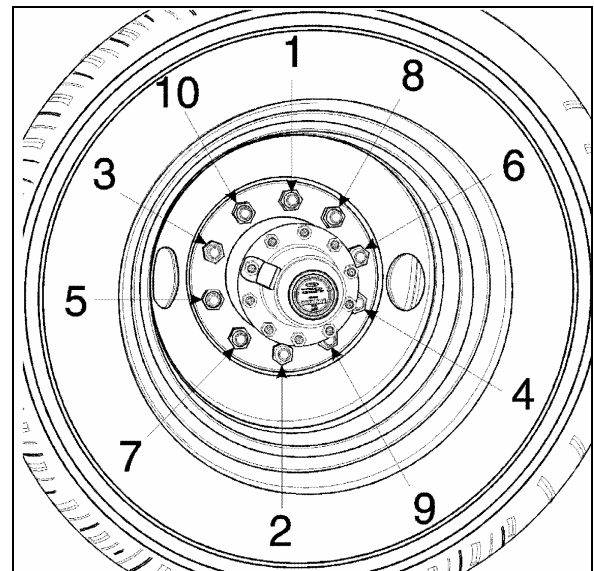
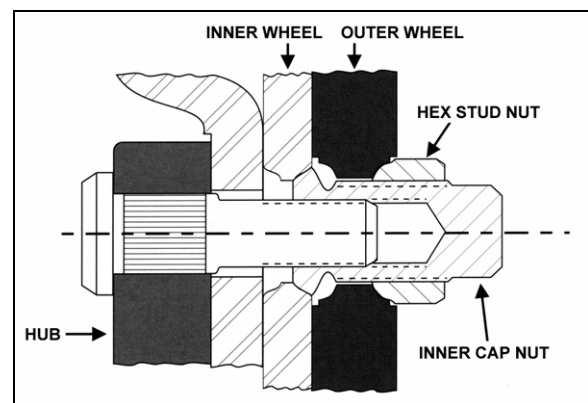

FIGURE 2: TIGHTENING SEQUENCE 13018
FIGURE 4: STUD-MOUNTED WHEELS 13007
It is also important that wheel stud nuts be tightened alternately on opposite sides of the wheel. Refer to Figure 2 for the suggested tightening sequence.
Tighten stud nuts progressively as shown in Figure 2. The final tightening should be done with a torque wrench. Tighten stud nuts to 450 - 500 lbf-ft (610 - 680 Nm) for aluminum as well as steel wheels.
2. Screw in the hex stud nuts (refer to Figure 2 for sequence) so that wheel will position itself concentrically with hub. This is important, otherwise wheel may be eccentric with hub and will not run straight. In this initial step, slightly tighten the nuts to correctly position the wheel;
3. Tighten stud nuts progressively as shown in Figure 2. The final tightening should be done with a torque wrench. Tighten stud nuts to 450 - 500 lbf-ft (610 - 680 Nm) for aluminum as well as steel wheel.
2. Screw in the inner cap nuts (Fig. 4), so that wheel will position itself concentrically with hub. Refer to Figure 2 for sequence;
3. Tighten inner cap nuts progressively according to sequence shown in Figure 2. Final tightening should be done with a torque wrench. Tighten inner cap nuts to 450 - 500 lbf-ft (610 - 680 Nm) for aluminum as well as steel wheel.
With inner wheel installed, tighten the hex stud nuts (Fig. 4) using the single wheel installation procedure described previously.
1. Loosen a hex stud nut three turns (Fig. 4);
Repeat for each of the 10 "hex stud nut - inner cap nut assemblies" according to the tightening sequence in figure 2.